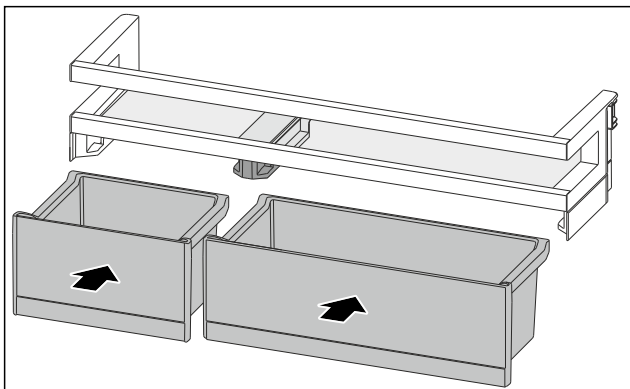

Fig. 128
- ▶ Insert the VarioBoxes in reverse order. (see Fig. 128)